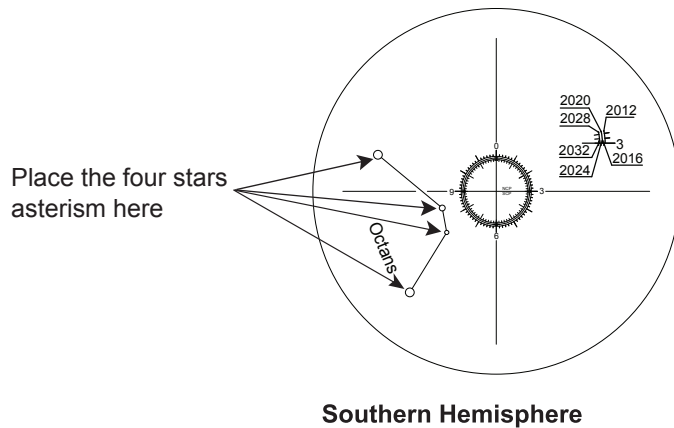

Fig. 3.2a
Once the mount is powered up and the polar scope is illuminated, the pattern in the above figure (Fig. 3.2a) should be visible in the field of view (FOV) of the polar scope. If the image appears blurred, rotate the knurled ring of the polar scope's eyepiece to focus.
- 2. For observing in Southern Hemisphere:** In the FOV of the polar scope, locate the 4 dim stars (Around Magnitude 5 to 6) which form the pattern like the "Octans" drawing in the polar scope (refer to Fig. 3.2a). Loosen the R.A. clutch and rotate the R.A. axis to align the orientation of the "Octans" drawing to the 4 stars. Then use the elevation adjustment bolts and the azimuth adjustment knobs to move the 4 stars to the 4 small circles of the "Octans" drawing.
As the Polaris is not located exactly at the North Celestial Pole, we can see it orbits the North Celestial Pole in a polar scope. The large circle seen in the center of the pattern in Fig. 3.2a is a representation of the Polaris' orbit around the North Celestial Pole. When performing the polar alignment process, it is necessary to determine the orientation of the Polaris on the circle. We can use the following 2 methods to get the orientation:
2. At the end of the initialization of the SynScan hand control, after entering the proper local longitude, latitude, date, time, and daylight-saving time, the SynScan hand controller will display the message: "Polaris Position in P.Scope=HH:MM". Imagine the larger circle in Fig. 3.2a as a clock's face with 12:00 at the top, with the current time pointing to the "HH:MM". The orientation of the hour hand of the clock represents the orientation of the Polaris in the polar scope. Put the Polaris to the same orientation on the large circle to finish the polar alignment.
Polaris position also changes as time passes. The reticle in Fig. 3.2a displays 3 circles to represent Polaris's orbit in year 2012, 2020 and 2028. It also gives sub-dials at 0, 3, 6, and 9 o'clock position for year 2016, 2024 and 2032. An engraving labeled with the above years is also displayed on the right of the FOV for memo purpose. When doing polar alignment in Northern hemisphere, the user should put Polaris on the correct circle corresponding to the present year for better alignment precision.